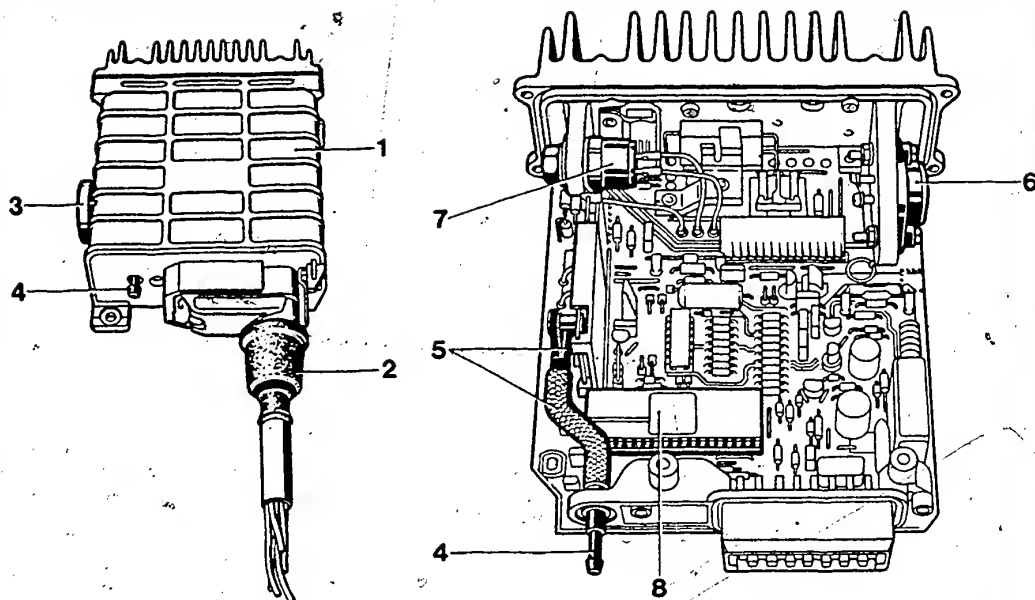

Fig. 1 Trigger box construction
- Construction of the trigger box (see Fig. 1)